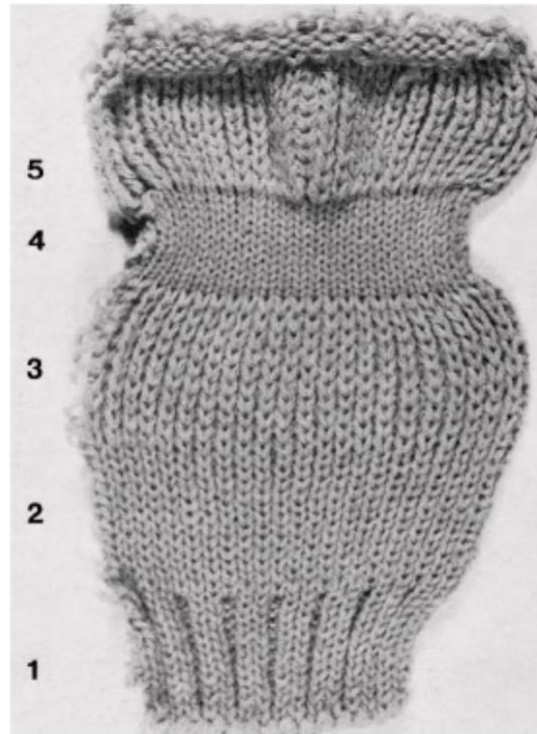

Fig. 16.13 Stitch shaping (1 = 2 × 2 rib; 2 = 1 × 1 rib; 3 = half-cardigan; 4 = tubular courses; 5 = full cardigan).
- In the sleeve and body panels of knitwear, the tuck stitches will cause half and full cardigan to throw out wider than the 1 × 1 rib border (Fig. 16.13).